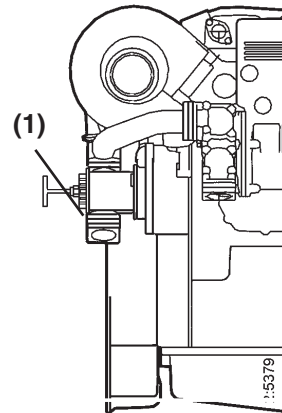

Figure 21
1. Remove the impeller using an impeller removal tool (**Figure 21, (1)**).